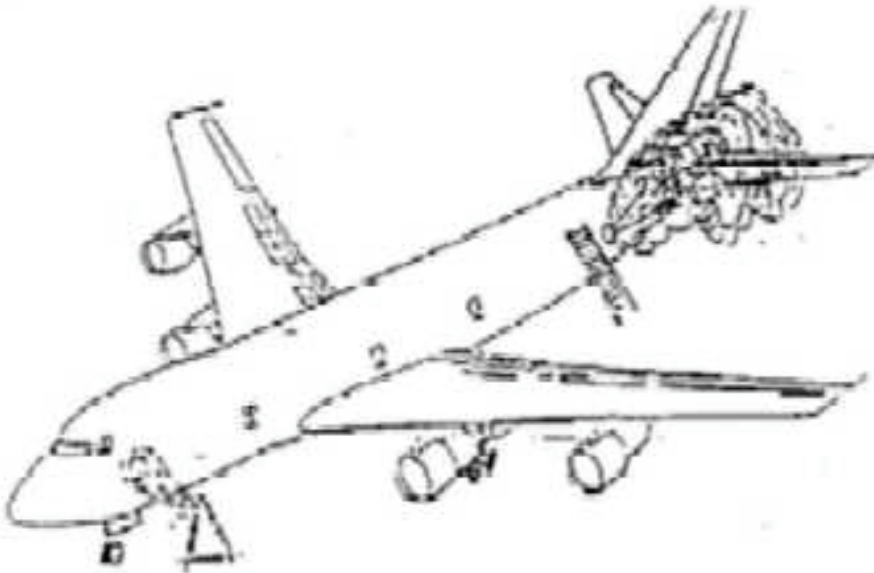

Figure 11
- a. Hang fan on "A" frame ladder for extra height. (See figure 11.)